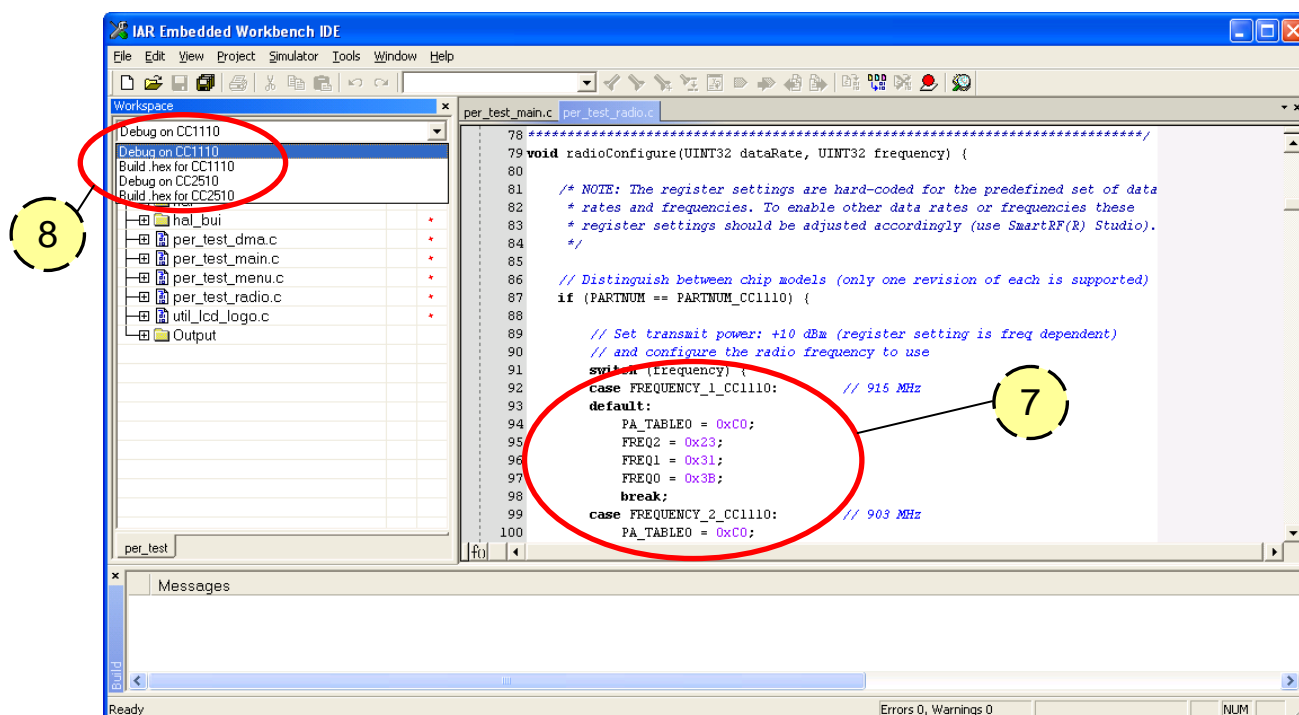

Figure 7: Overview of the workspace in IAR Embedded Workbench IDE
8. When done editing the source code, select your build target from the menu in the upper left corner (see Figure 7). This step-by-step guide assumes that one of the debug builds is chosen.
16. Repeat steps 9 through 15 for the other evaluation module (EM). You should now be able to perform your packet error rate test.